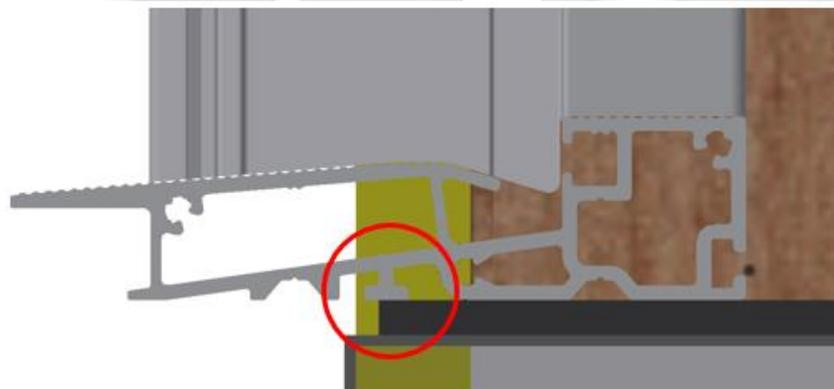

Figure 7: Sill Shimming
B) Please note in the event an HP sill condition is presented in conjunction with a nail flange and the supporting exterior surface is not structural such as gypsum board, shims will be needed to support the threshold as shown in figure 7.